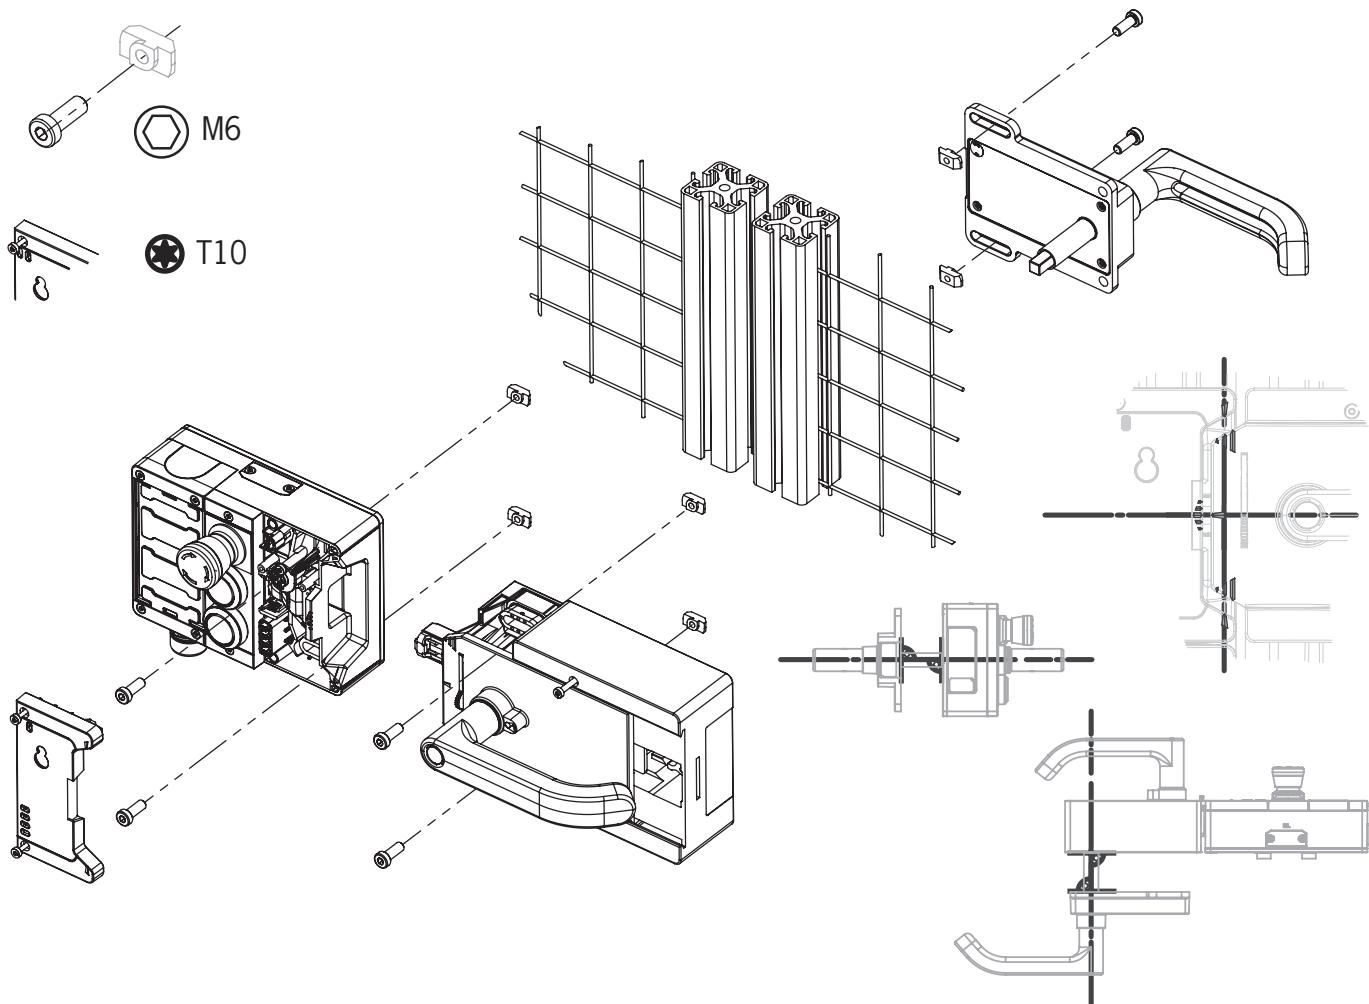

Figure 9: Installation example for door hinged on the right (general view)
- Align escape release axis at right angles to the handle module. See *Figure 9*.
For mounting steps, see *Figure 9* and *Figure 12* to *Figure 17*.